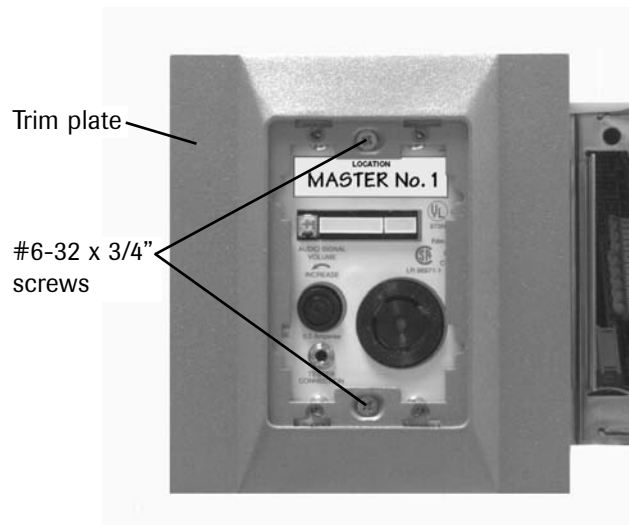

Figure 12
8. Install the trim plate using (2) #6-32 x 3/4" screws. **Do not tighten**. Refer to **Figure 12**.